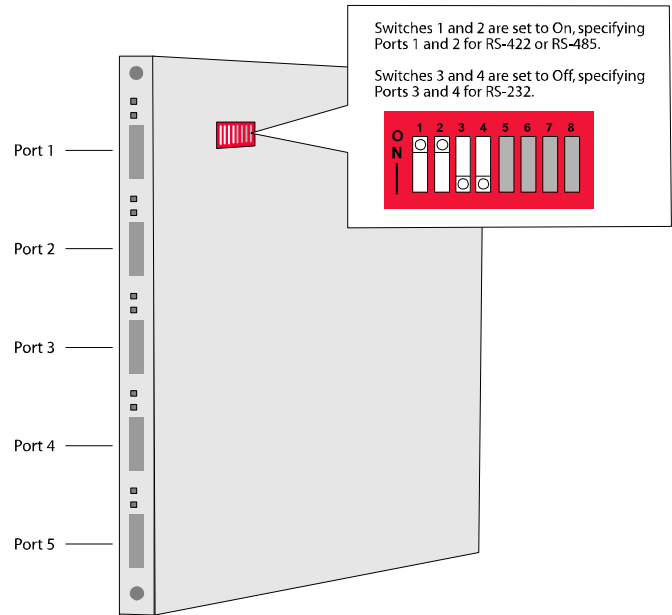

Figure 23 Using EICM Switches to Configure Port Communication Interfaces
- Figure 23 depicts the EICM module and switch block.